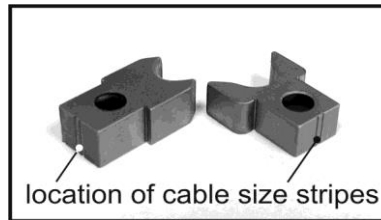

Fig.2.
- ❑ Each sub-insert, both upper and lower, is marked with stripes (Fig.2.). Both can have one, two or three stripes